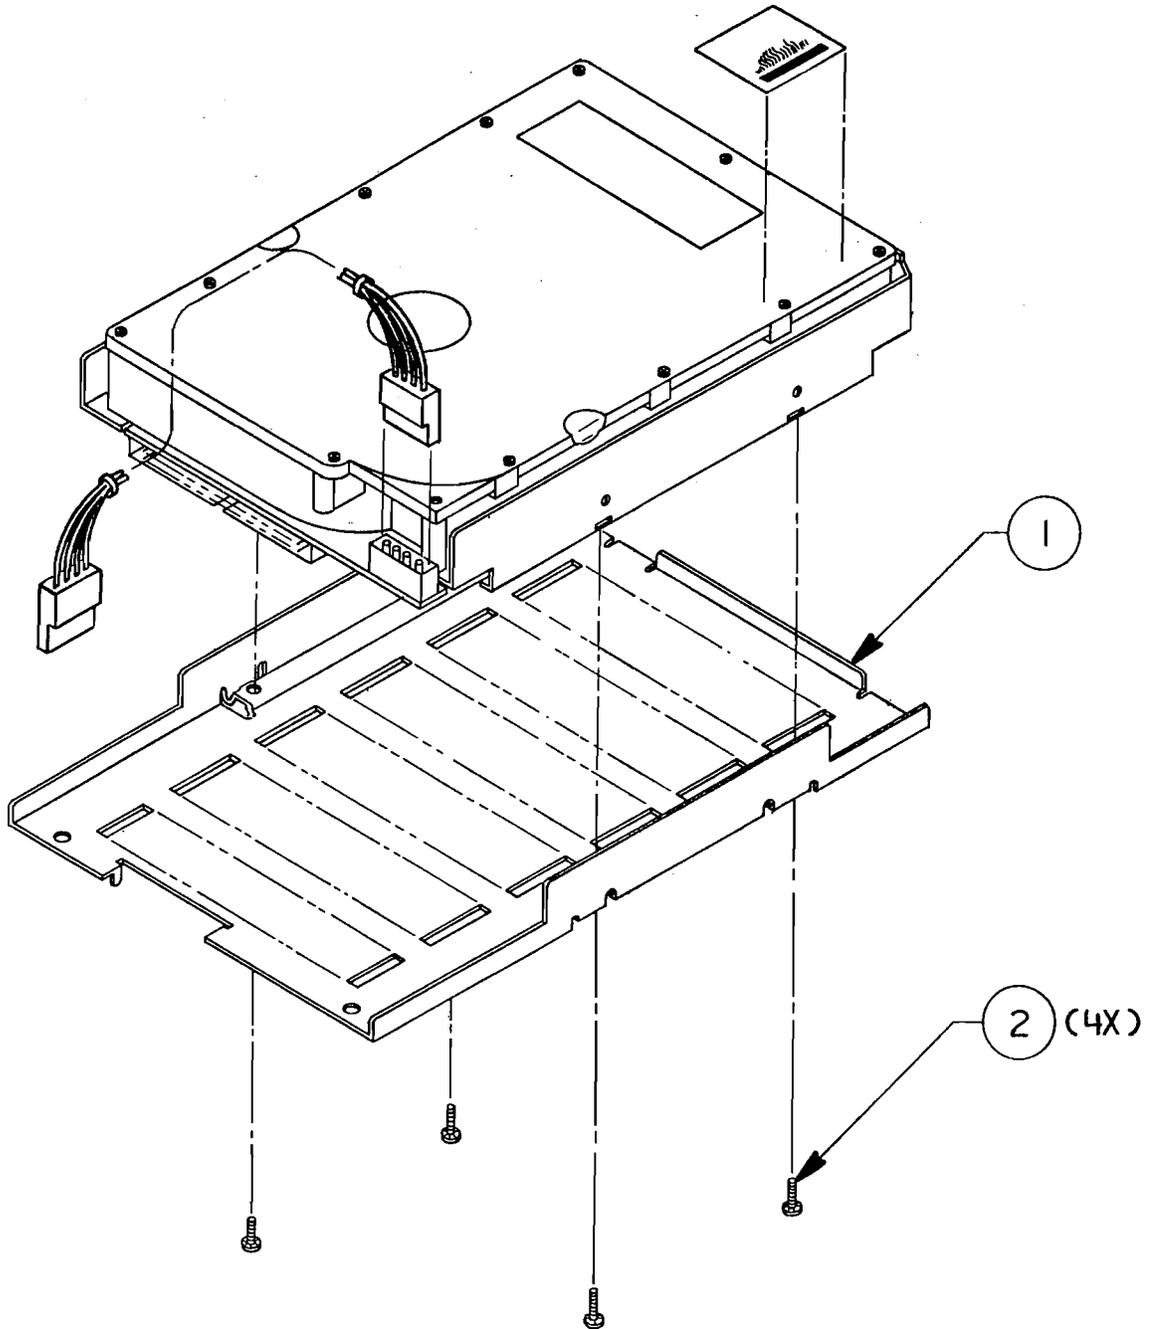

FIGURE 3
- IPL.7 Hard Disk Assembly (HDA) – 40SC/80SC (Figure 3)
□ **HARD DISK ASSEMBLY (HDA)—40SC/80SC (Figure 3)**